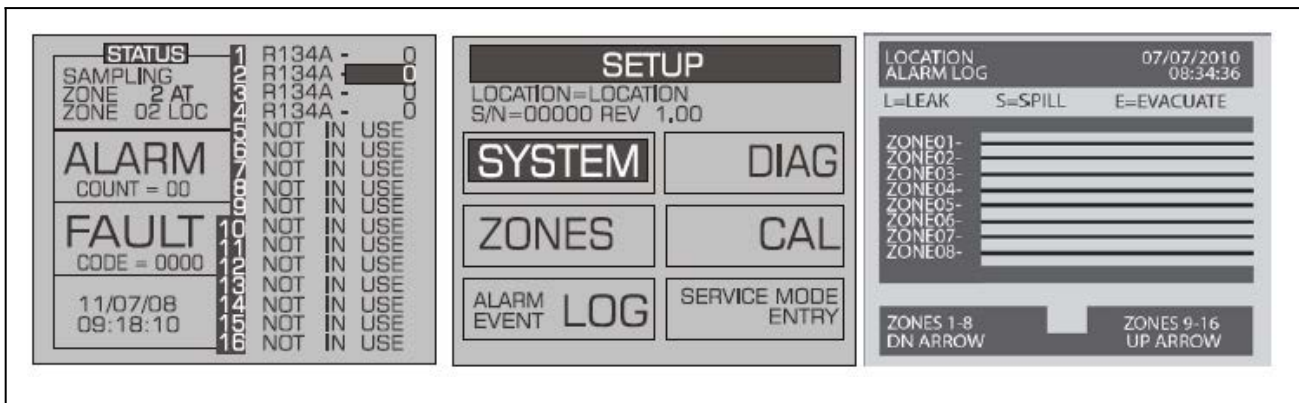

Figure 7-6 - Accessing the Alarm Log
- Press the **DOWN** arrow key until **Alarm Event Log** is highlighted, then press **ENTER** to select this option and display the **Alarm Event Log** (see **Figure 7-6**)